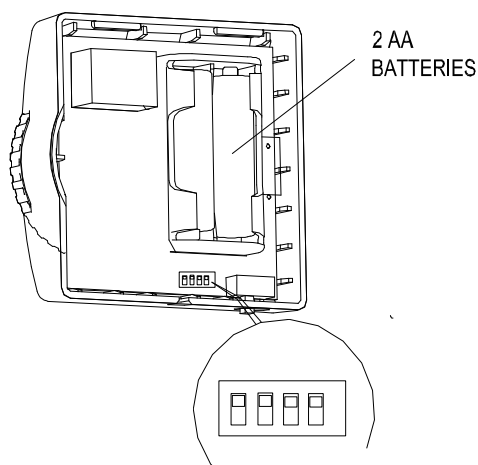

Figure 2
2. Connect wires beneath terminal screws on the base using appropriate wiring schematic. See figure 2
Slide the DIL switches to the settings required (see Figure 2)